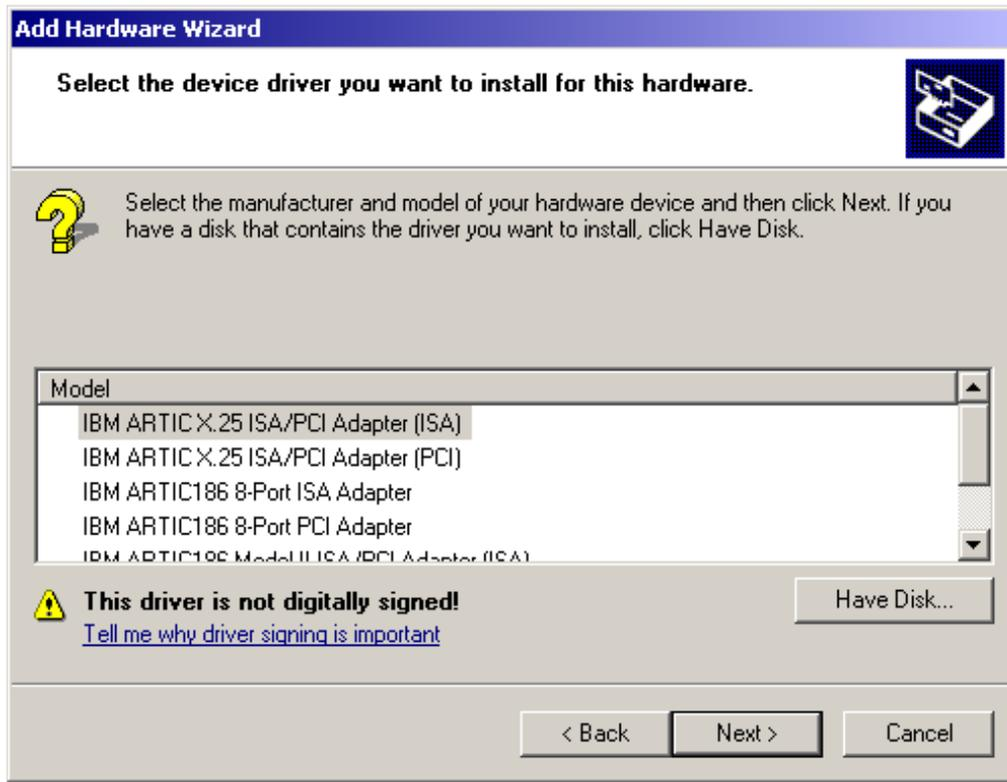

FIGURE 199. Device driver installation window
25. A new window will open for selecting device drivers as seen in Figure 199.